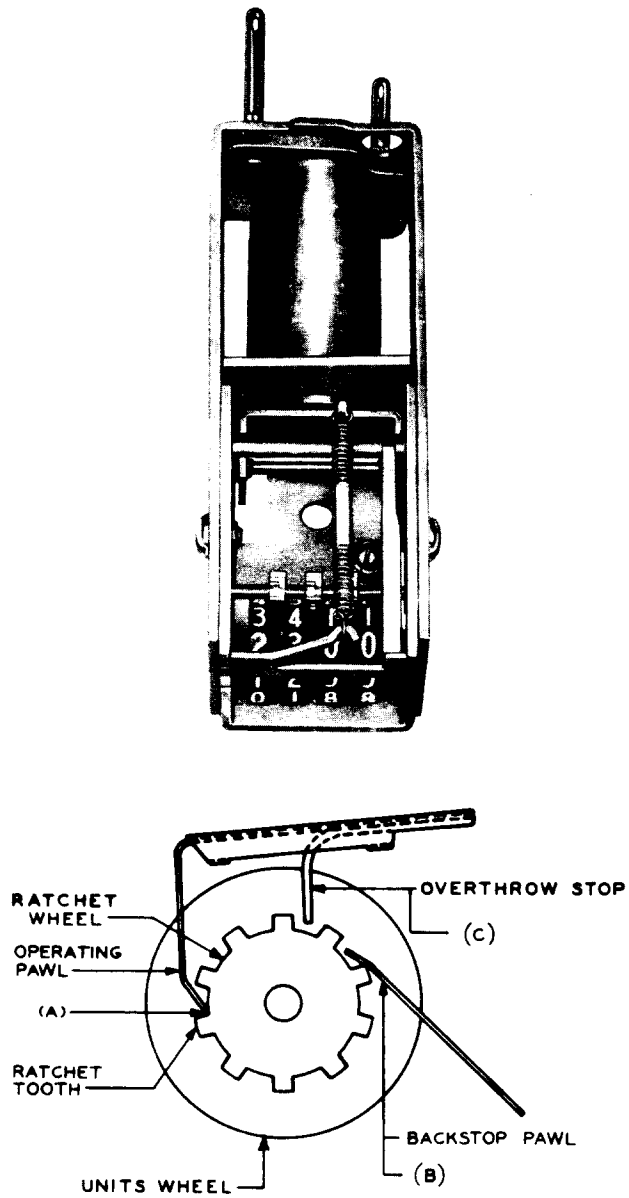

Fig. 1—Typical 14-Type Message Register (Initial Design)
1.05 The 14-type register consists of three configurations. For the purposes of this section, they will be identified as "14-type initial design" (Fig. 1), "14-type MOD 1" (Fig. 2) (identified in previous issues as improved design), and "14-type MOD 2" (Fig. 3). The basic description and functioning of the three configurations are as follows.